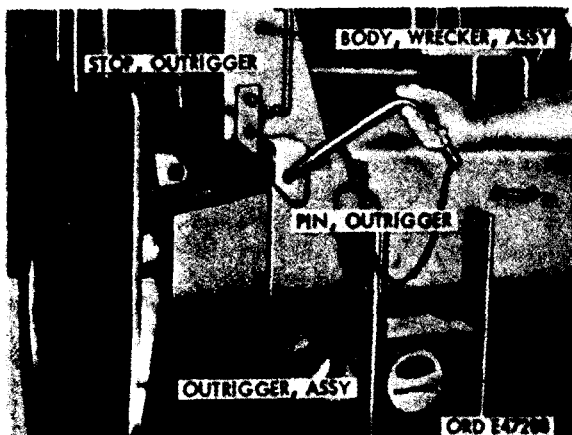
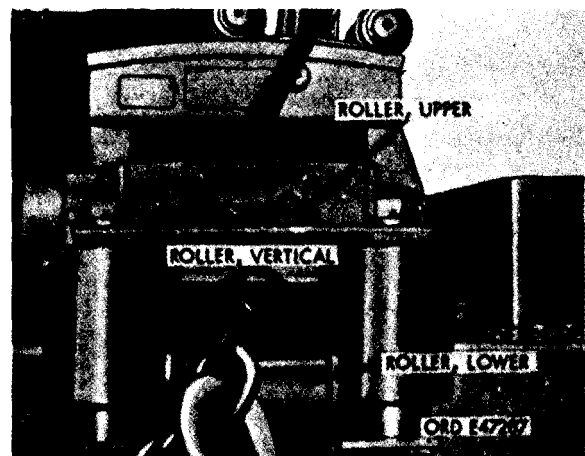

Figure 499. Removing outrigger assembly
Figure 500. Rear winch cable guide rollers
- (1) General. The wrecker body is of all welded steel construction and disassembly is limited to removal of the four outrigger assemblies (fig. 499) and the upper, lower, and vertical cable guide rollers (fig. 500). Replacement of the wrecker body necessitates removal of the complete wrecker crane and rear mounted winch.
(2) Outriggers (fig. 499).
Note. The two vertical rollers must be removed before lower roller (fig. 500) can be removed.
- (1) Outriggers (fig. 499). Attach suitable hoisting equipment and lift outrigger assembly into wrecker body outrigger tube. Position outrigger stop on body and secure with two cap screws and lockwashers. Secure outrigger assembly to body with outrigger pin.
- (2) Cable guide rollers.